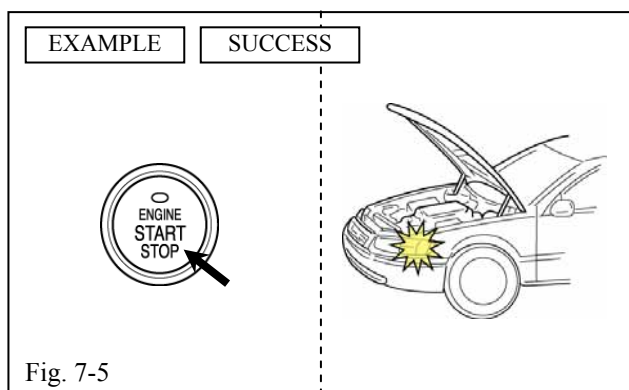

Fig. 7-5
- (i) Start the Engine, after 10 seconds stop the Engine. (Fig. 7-5)
- (j) The Hazard Lights flash once. (Fig. 7-5)